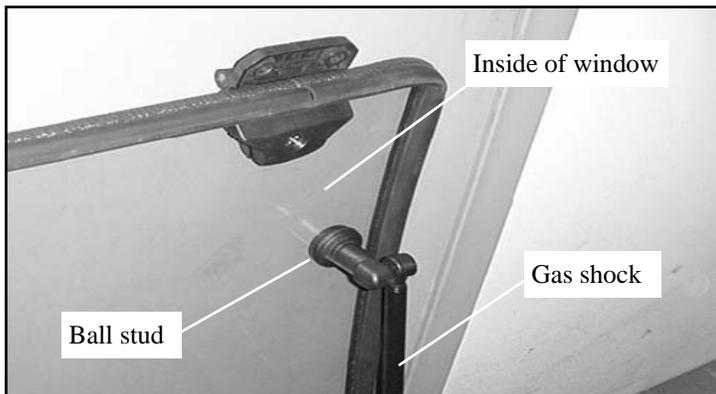

Fig. 8.1.1 Ball stud assembly view
- 8.1 Install two (2) ball studs to the inner curved surface of the window (Note: the Philips head portion of the screw is to be on the outside of the window.) The base of the ball stud goes against the inner surface of the window, with the boss sitting inside the window hole. Bolt these components together, making sure that the ball portion of the ball stud is facing the outside edge of the window as shown in fig. 8.1.1 (so that the gas shocks will be as close to the edge of the window as possible.)